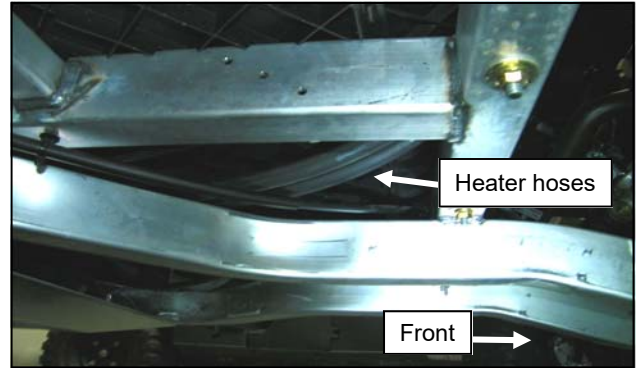

Fig. 5.1.1 (1500 shown)
- 5.1 Underneath the vehicle, route the heater hoses along the passenger's side center frame, remove excess slack from front to rear and secure with large cable ties. See figures 5.1.1 and 5.1.2. Inside the engine compartment under the seat (Caryall 1500) or rear seat (Caryall 1700), route the heater hoses up beside the fuel tank.